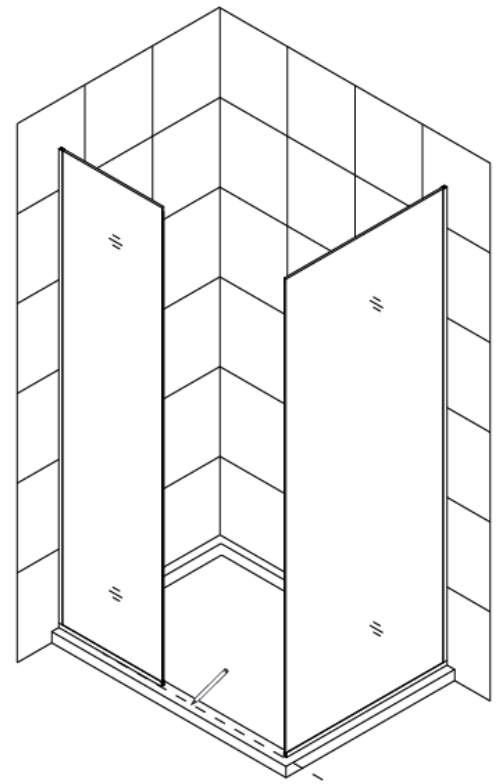

Fig. 7
**NOTE:** This model is fully reversible. The **installation is shown with the return panel to the right** in Fig. 7. For installation with the return panel to the left, simply reverse the orientation of your installation and begin on the opposite wall.
- Centering the panels on the threshold may be acceptable. However, for proper alignment it is recommended that you install the return panel first (*for example*, the panel on the right in Fig. 7) in order to align your second panel. You will need to mark a line on the threshold to determine where to install this second panel.
**See Fig. 7 for details**